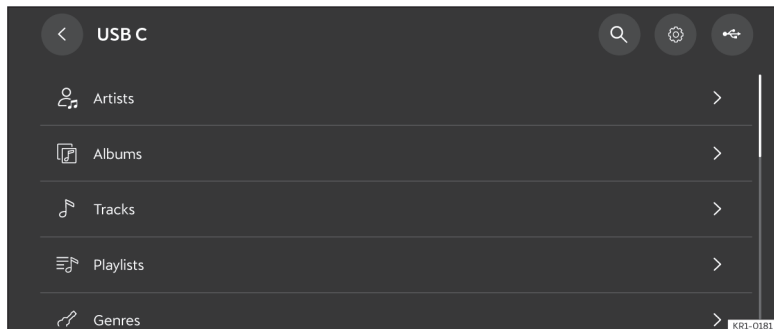

Fig. 166 Schematic representation: Media view
- Press **Menu** > **USB** >>> **Fig. 166**.